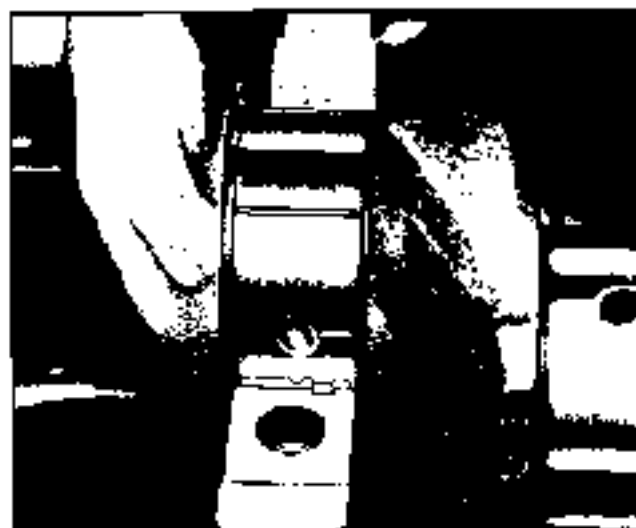

Fig. 6-48 Plastigage (or equivalent) in Place
3. Place a piece of Plastigage, the length of bearing (parallel to crankshaft), on journal or bearing surface (Fig. 6-48). Install cap and tighten cap bolts to proper torque.
2. Place a piece of Plastigage, or equivalent, the length of bearing (parallel to crankshaft), on the crankpin or bearing surface (Fig. 6-48). Install the cap and tighten cap bolts to 33 lb. ft.